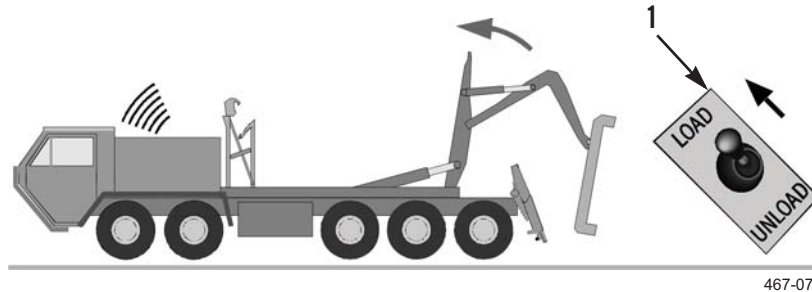

Figure 36. Lift Frame Being Loaded.
- Keeping engine at idling speed, set joystick (Figure 36, Item 1) to LOAD (PLS: TM 9-2320-364-14&P, HEMTT: TM 9-2320-326-14&P). Increase engine speed (maximum 1,500 rpm) (PLS: TM 9-2320-364-14&P, HEMTT: TM 9-2320-326-14&P).